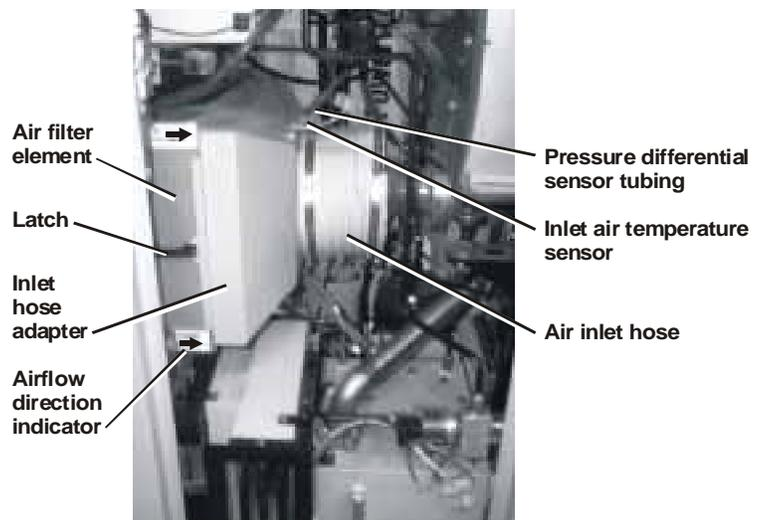

Figure 47. Replacing the air inlet filter
- 3 Disconnect the inlet air temperature sensor cable and the pressure differential sensor tubing (Figure 47).